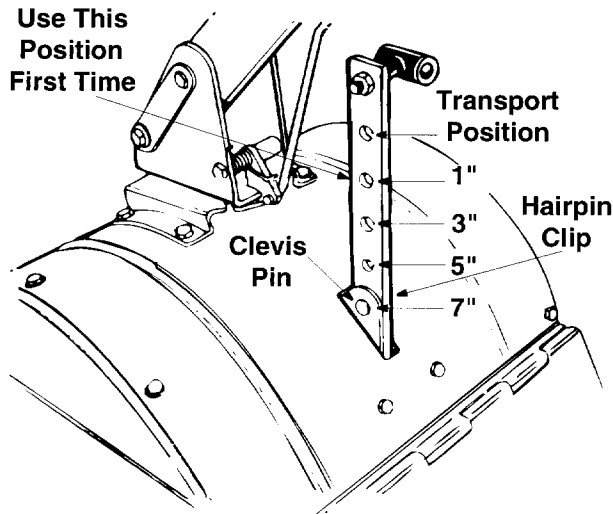
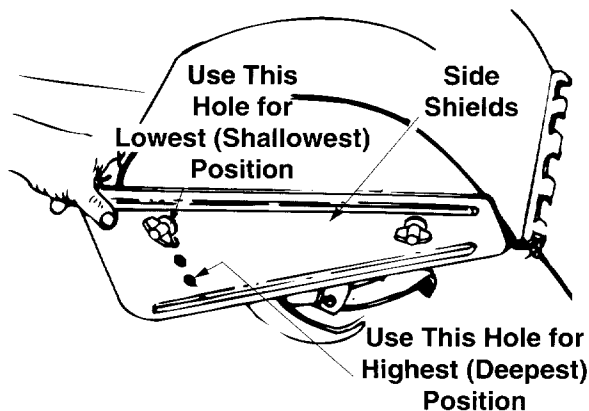

Figure 14
Figure 15
WARNING: When operating the tiller for the first time, use the depth stake setting that gives 1 inch of tilling depth (second hole from the top). Refer to Figure 14.
Tilling depth is controlled by the depth stake which can be adjusted to five different settings. See Figure 14. Adjust the side shields as shown in Figure 15, as you adjust the depth stake. Be certain spark plug wire is disconnected and grounded against the engine.
1. When using the tiller for the first time, use the second adjustment hole from the top (1" of tilling depth). See Figure 14.
To adjust the depth stake, remove the clevis pin and hairpin clip. See Figure 14. Move the depth stake to the desired setting. Secure with the clevis pin and hairpin clip.
To adjust the side shields, remove the wing nuts. See Figure 15. Move the side shield to the desired position. Replace the wing nuts. Tighten securely.